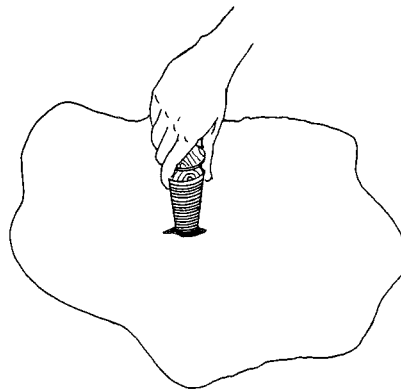

Figure 1. Wood Plug Repair of Collapsible Fabric Tank.
- a. In emergencies, as an immediate temporary measure, the wood plugs may be used for sealing small holes, tears, or punctures. Refer to Figure 1.